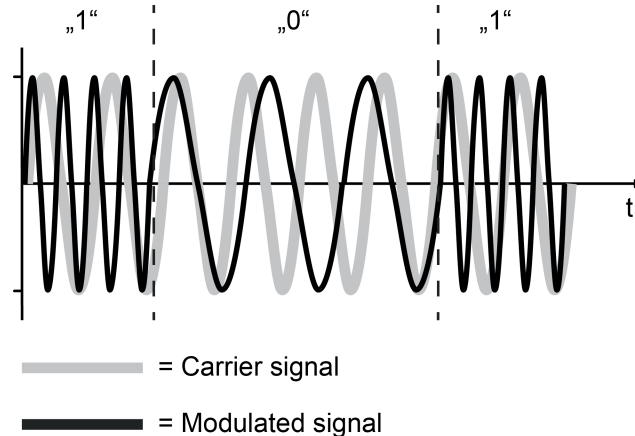

Figure 10: Frequency key shifting as a modulation method (FSK = Frequency Shift Keying)
An electromagnetic wave of a constant amplitude and frequency does not yet carry any information. To make this possible, the transmitter must change the amplitude or the frequency of the wave continuously according to an agreed method and the carrier signal must modulate the information in this manner. With KNX RF, the modulation type "Frequency key shifting" (FSK = engl. Frequency Shift Keying) is used (Figure 10). Frequency key shifting is a variant of frequency modulation (FM) and suitable for the transmission of digital information. Two time-coded signals of a different frequency are transmitted, in order to inform the receiver of the logical states "0" and "1". Frequency key shifting is impervious to interference. Even major transmission losses in signal amplitude do not have a negative effect on the demodulation of the transmitted information.